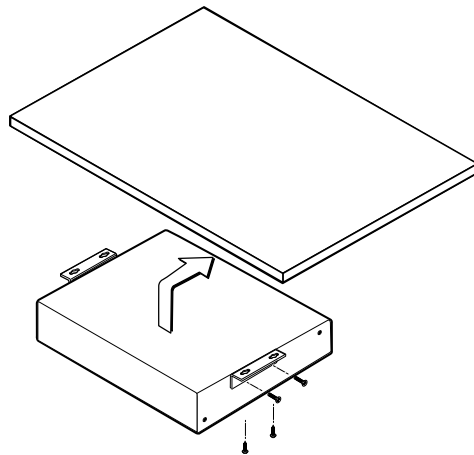

Figure 7. Under-desk Mounting
2. Secure the under-desk mounting brackets to the interface with the four machine screws provided in the mounting kit (figure 7).